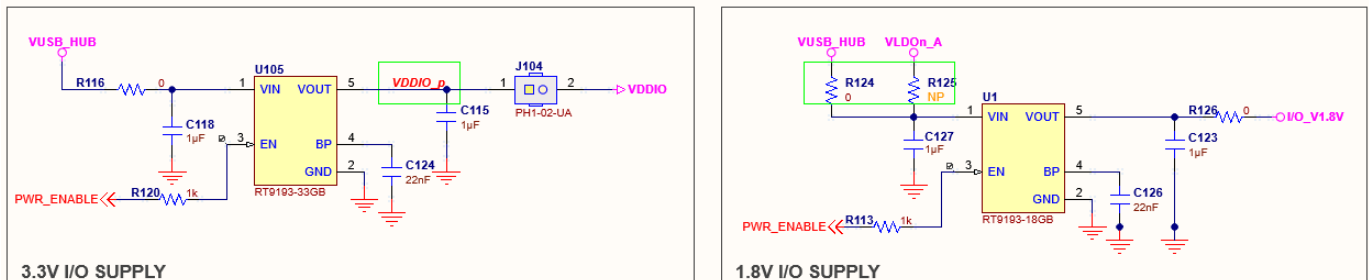

Figure 12. The LDOs for I/O_V1.8V and VDDIO
- For supplying interface section with 3.3 V, remove a jumper from J107. And apply the jumper on J104, see Figure 12.